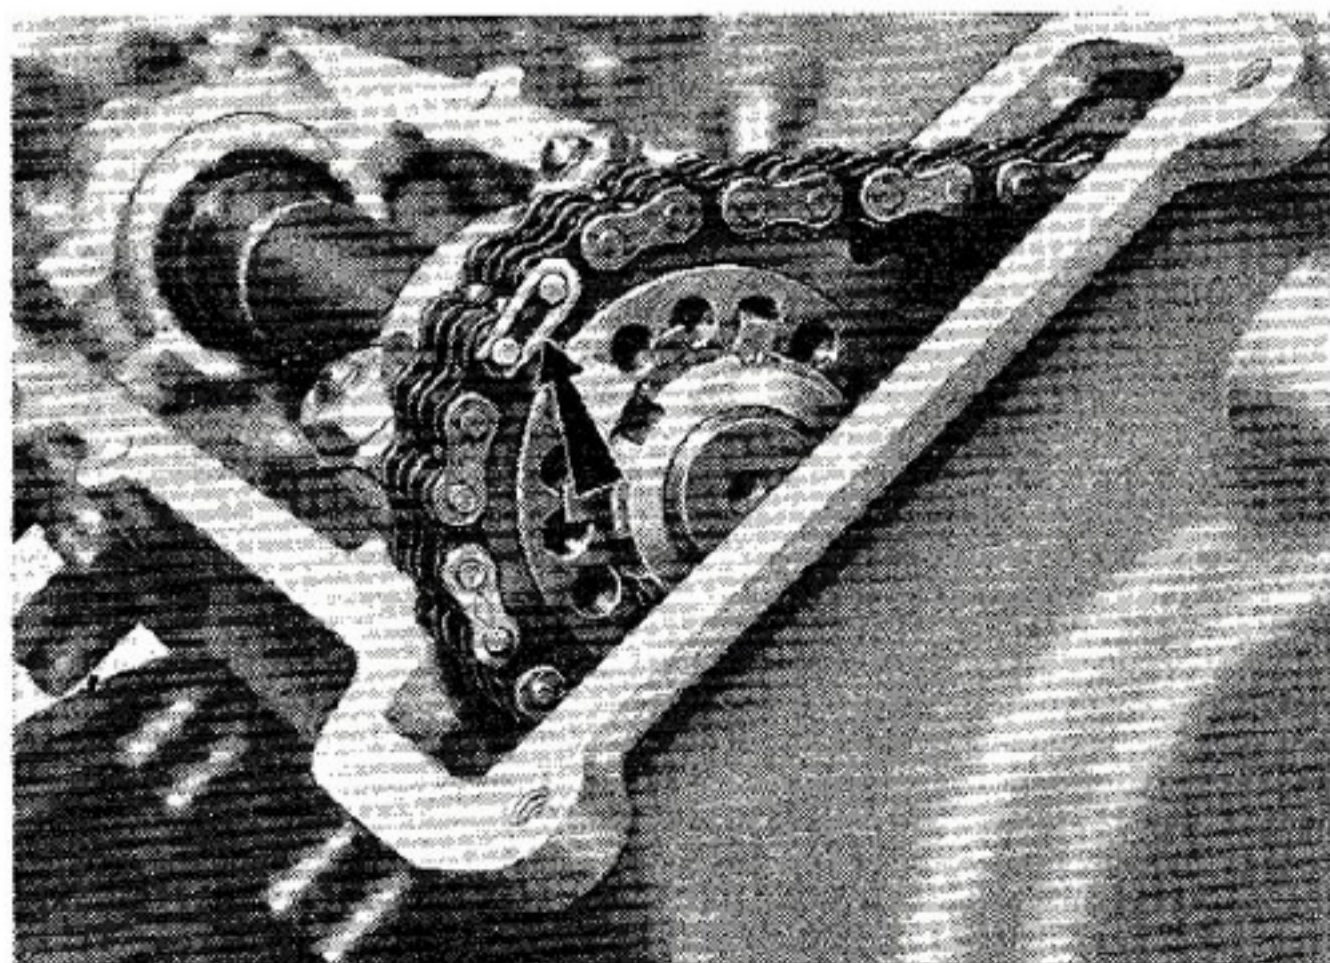

Fig. 37. - Upper timing chain link retainer.
— See if the timing chain removable link is in a visible and accessible position (fig. 37), if not, turn flywheel until the alignment of reference marks and the correct location of chain removable link are coincident.
- Install the upper chain, locating the removable link retainer in the position shown in fig. 37, and stretch the chain as instructed on next page. Using a graduated sector, and turning the flywheel, check that the advance and retard angles, respectively at opening and closing of intake and exhaust, correspond to the ones specified on the timing diagram in reference to the 0,30 mm (.012") and 0,35 mm (.014") clearances, respectively for the intake and exhaust valves.